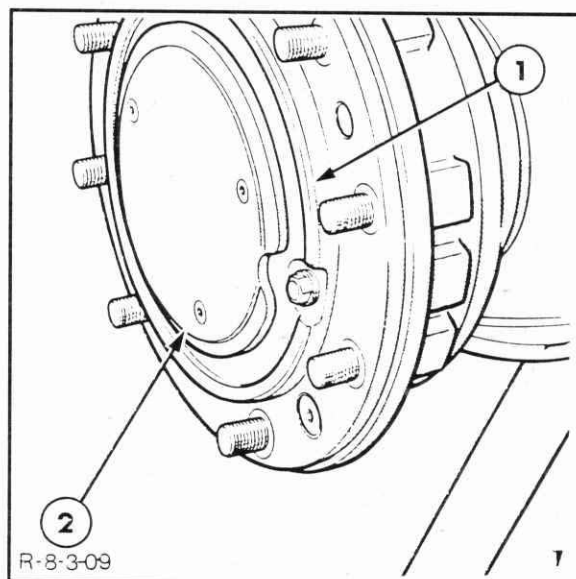

Figure 7-76
1. Remove the planetary carrier outer cover plate screws and remove the cover plate, Figure 7-76.